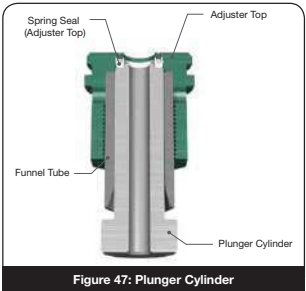

Figure 47: Plunger Cylinder
- viii. Push down on Plunger cylinder to insert Spring Seal (Adjuster Top) into Adjuster Top as shown in Figure 47.
- viii. Push down on plunger cylinder to insert Spring Seal (Adjuster Top) into Adjuster Top as shown in Figure 47.